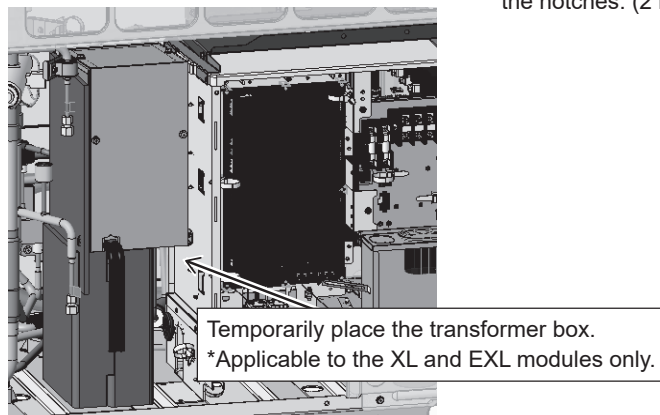

Figure 7
- (8) Temporarily place the transformer box on the cardboard support (*applicable to the XL and EXL modules only). (Figure 7)